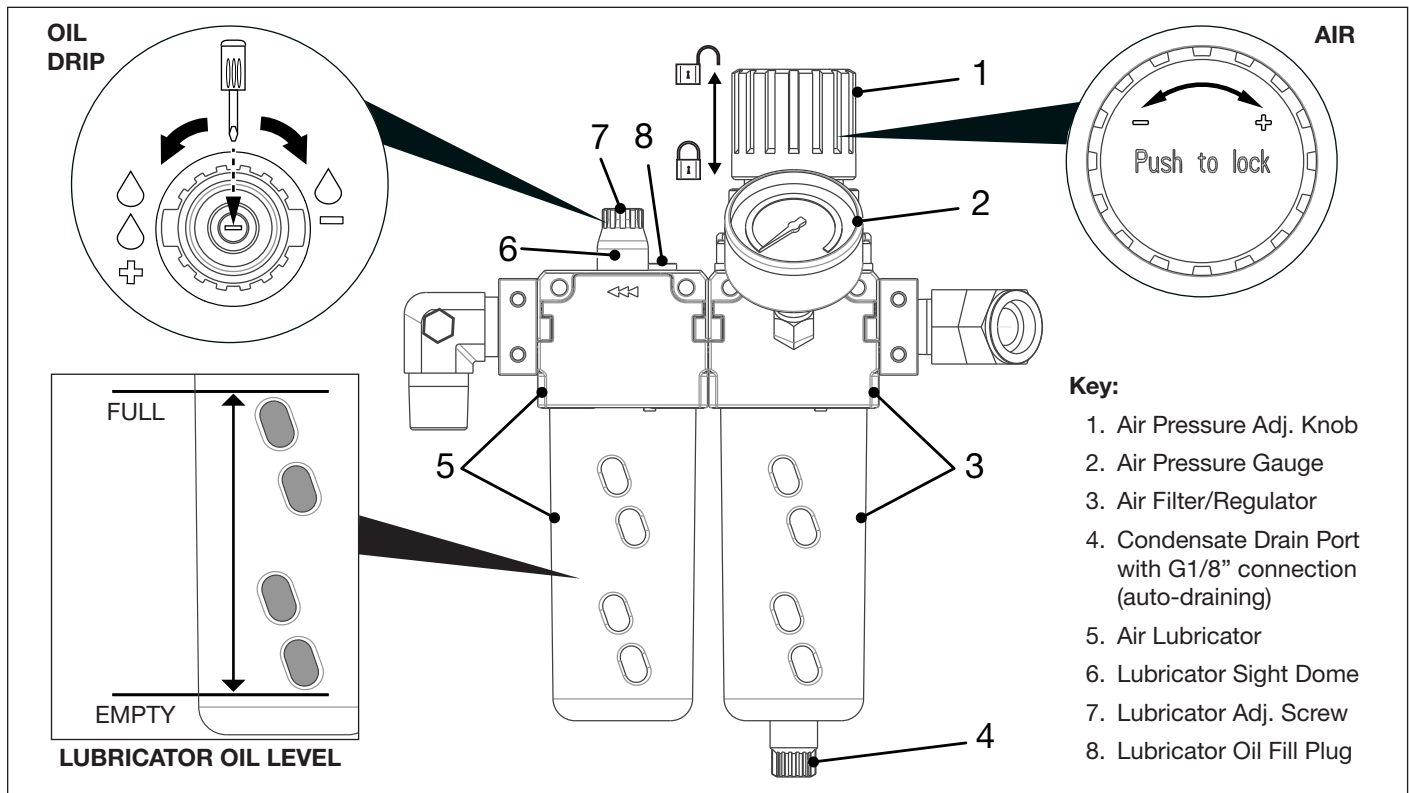

Figure 6: Air Filter/Regulator and Lubricator
To adjust the air pressure setting: With the pump not running, pull up on the air pressure adjustment knob to unlock the setting. Rotate the knob clockwise to increase the setting or counter clockwise to decrease it. Push down on the knob to lock the setting. A gauge located on the front of the regulator indicates air pressure. See Figure 6.
The air lubricator injects oil into the compressed air stream, providing lubrication for the pump air motor. See Figure 6. Air lubricant oil (user-supplied) must be added to the air lubricator before pump initial start-up.
3. Slowly add air lubricant oil as required. See oil level graphic in Figure 6.
The air lubricator drip rate must be adjusted before torque wrench is used on nut or bolt. See Figure 6.